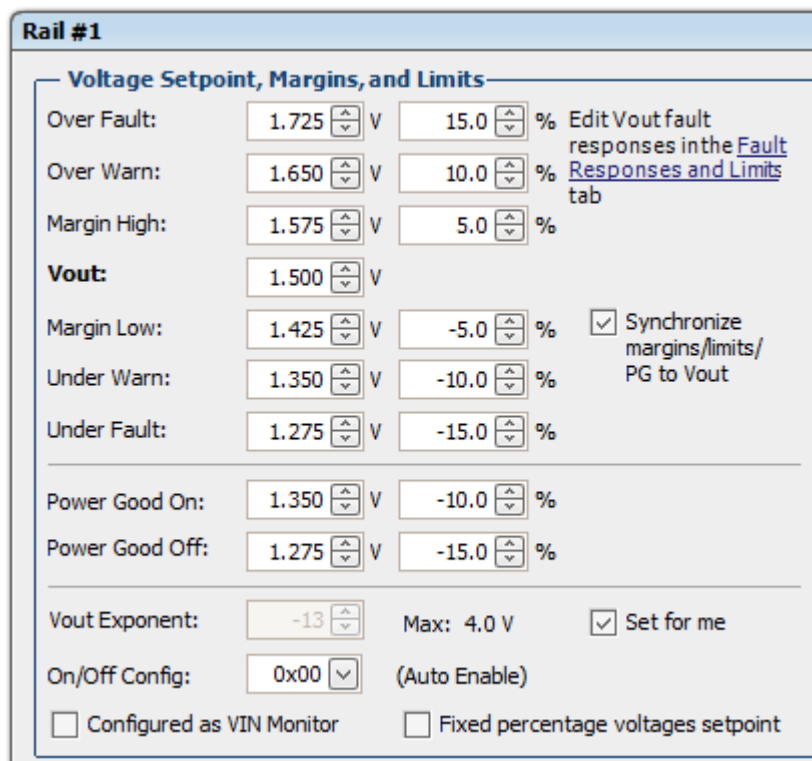

Figure 3. Rail Voltage Configuration Window (Configure ► Vout Config tab).
Voltage monitoring parameters of the selected rail can be configured under the same Vout Config tab. The configuration window is shown in Figure 3.
- If rail voltage is monitored by a MON pin, the *Power Good* status is solely determined by *Power Good On/Off* thresholds as shown in Figure 3. A rail is given *Power Good* status if its rail voltage is above the *Power Good On* threshold. Otherwise, the rail is given *Not Power Good* status if the rail voltage is below the *Power Good Off* threshold. The rail remains in the current status if its voltage is neither above *Power Good On* nor below *Power Good Off* thresholds.